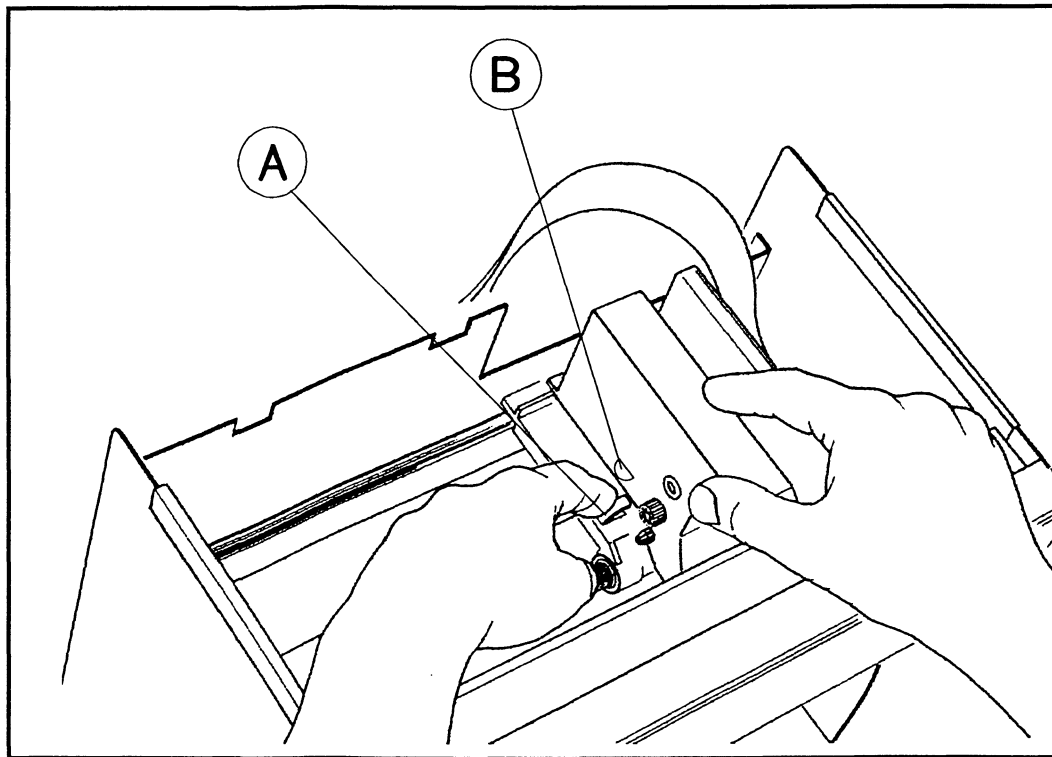

Figure 5-1 Removing used colored ribbon cartridge
Removal of the used cartridge is accomplished by pressing down on the plastic retaining clip (A) on the print carriage whilst the cartridge is being withdrawn to the left, as shown in fig 5-1 and 5-2. On and after the date code 04/96, pull out the cartridge with the help of the blue pull handle (B). See Figure 5-1